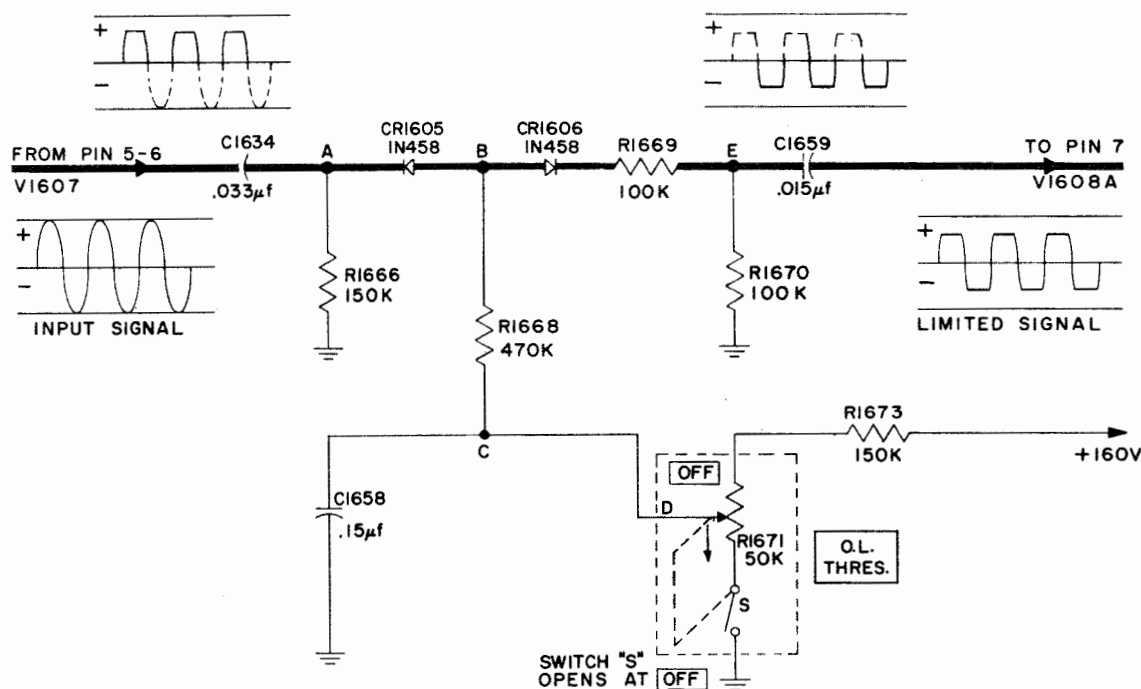

Figure 4-23. Output-Limiter Circuit CR 1605 and CR1606, Simplified Schematic Diagram
f. OUTPUT-LIMITER CIRCUIT. (See figure 4-23.)
The output-limiter circuit associated with the AM detector-amplifier is designed to limit the amplitude of the voltages to predetermined levels by clipping symmetrically both halves of the AF signal. The dc voltage level at which clipping occurs is governed by potentiometer R1671, a variable control to which is attached an on/off switch (S in figure 4-23). Both potentiometer and switch are operated by the O.L. THRES. control on the upper demodulator panel.